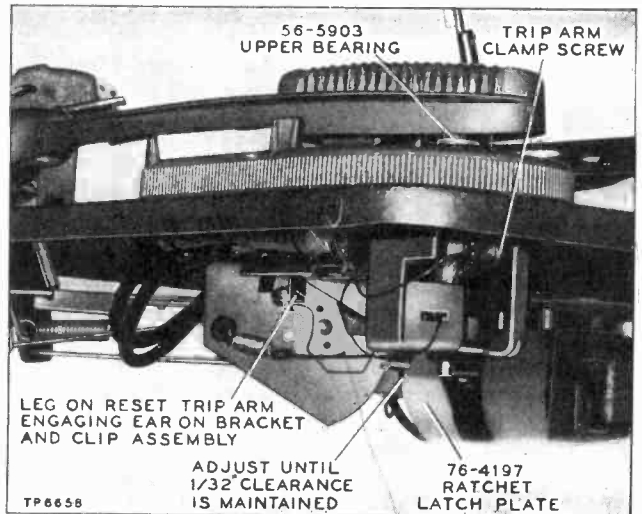

Figure 35. Trip-Switch Adjustment
With the tone-arm on the rest post, the mercury switch attached to the bracket-and-clip assembly, Part No. 76-4195, should be in a horizontal or ON position, as shown in figure 8. To adjust, loosen the reset-trip-arm clamp screw (figure 35), and while holding the tone arm on the rest post, move the trip arm until the leg on the reset trip arm engages the bracket-and-clip ear, and at the same time, the long ear of the bracket and clip is approximately $\frac{1}{32}$ " above the cut-out notch on the ratchet-plate assembly, Part No. 76-4197, as shown in figure 35.
b. Remove "E" washer, Part No. 1W60981FE7, from bearing shaft mounted on tone-arm stanchion (figure 35).